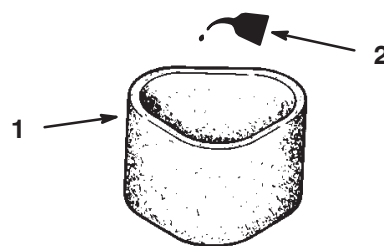

Figure 26
3. Put one or two ounces of oil on the element (Fig. 26). Squeeze the element to distribute the oil.